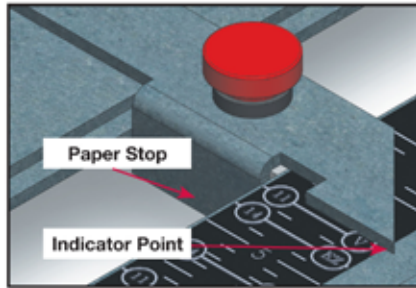

Figure 9: Paper Stop Alignment
3. Line up the tips on both sides of the paper stop with the appropriate line on the scale so that the appropriate white line on the scale is just visible (see Figure 9).